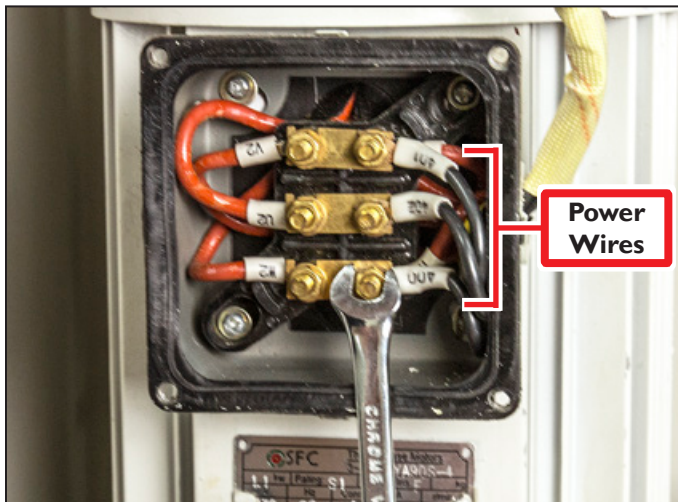

Figure 7
12. Remove the three Power Wires (labeled 400, 401, and 402) that you identified in Step 10 with an 8 mm wrench (see **Figure 7**). Temporarily push the wires aside (see **Figure 8**).